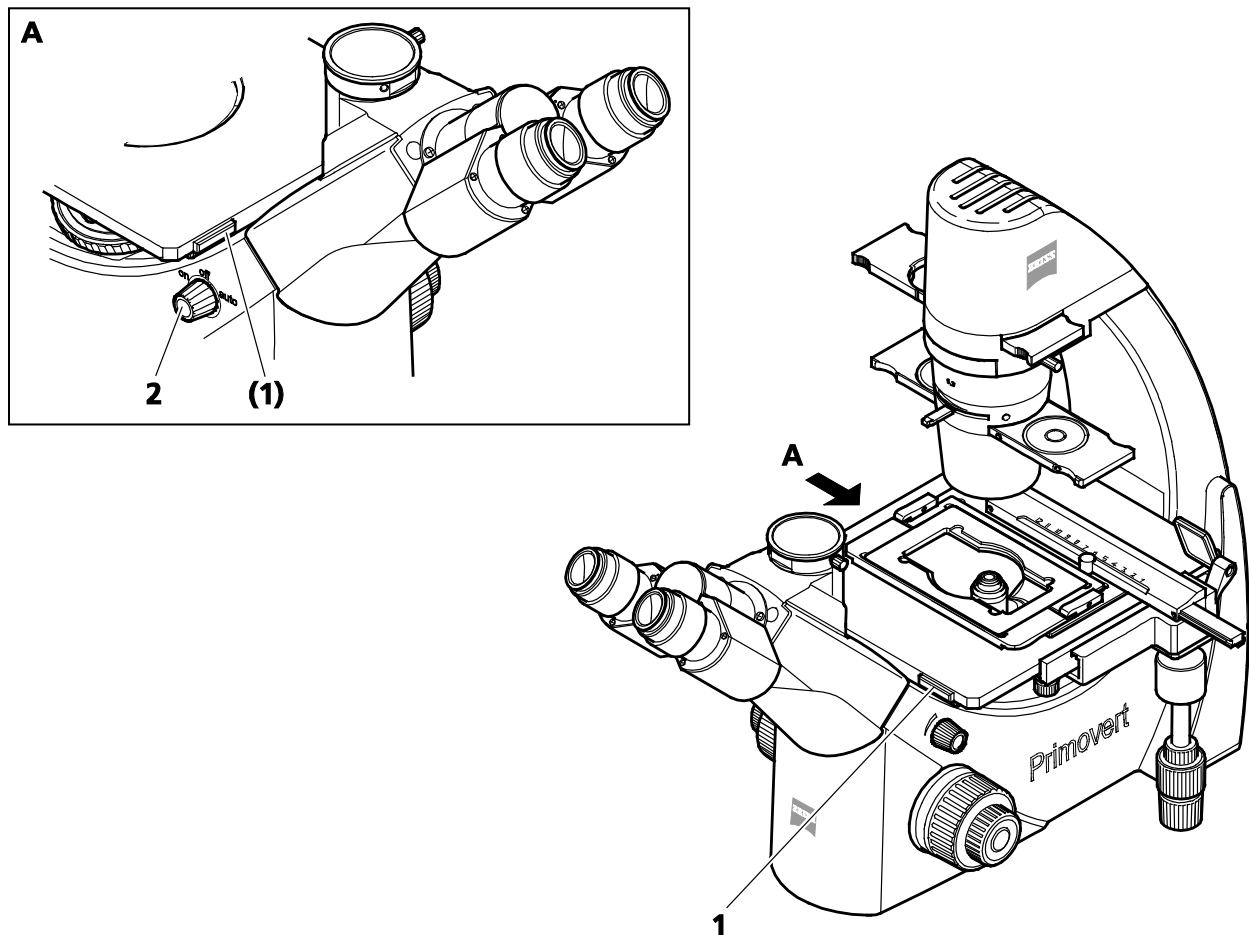

Fig. 13 Switching the microscope on or off
- Switch on the microscope using the rotary knob (Fig. 13/2) (**ON** or **AUTO** position).
The two ON/OFF switches (Fig. 13/1) on the specimen stage for quickly switching the transmitted-light illuminator on and off are inactive. The illuminator remains continuously switched on.
The ON/OFF switches (Fig. 13/1) for quickly switching the transmitted-light illuminator on and off are active. So, the illuminator can be switched off and on again quickly. After an operation time of 15 minutes, the illuminator switches off automatically and goes to standby mode. Upon actuating one of the ON/OFF switches, the illuminator switches on again. When actuating the switch once more during operation, the 15-minute period will start again from the beginning.
- After finishing work, switch off the microscope with the rotary knob (Fig. 13/2) (**OFF** position).